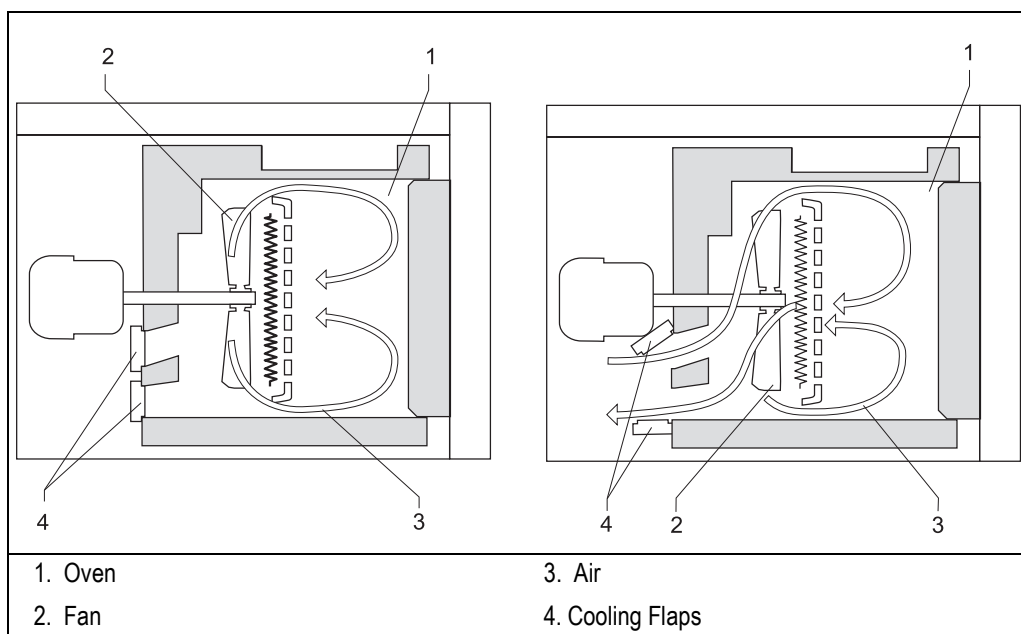

Figure 14-2. Oven Air Circulation
- minimum operating temperature of a few degrees above ambient, which is obtained by two modulated cooling flaps controlled by the GC, shown in Figure 14-2